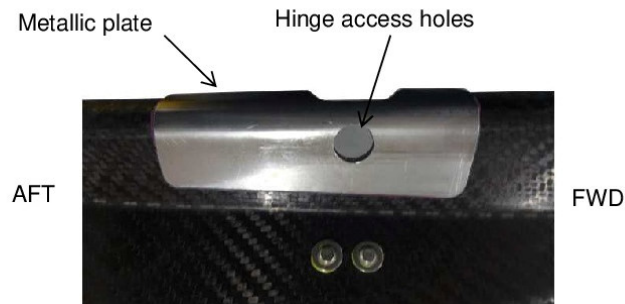

Figure 16
4. Align the hinge access hole of the metallic plate with the one of the rigid cover (see Figure 16).